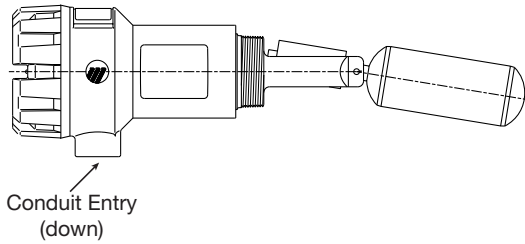

Figure 2
3. Using a pipe wrench, rotate the unit clockwise until threads are tight in mounting. Ensure that the conduit entry points down. **See Figure 2.**